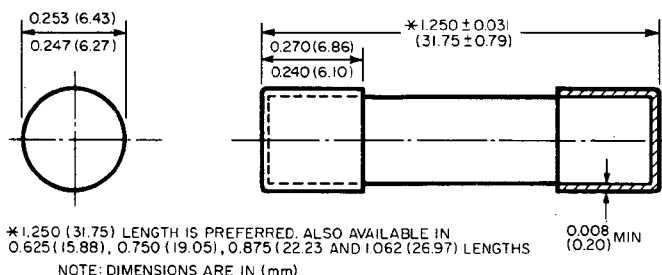
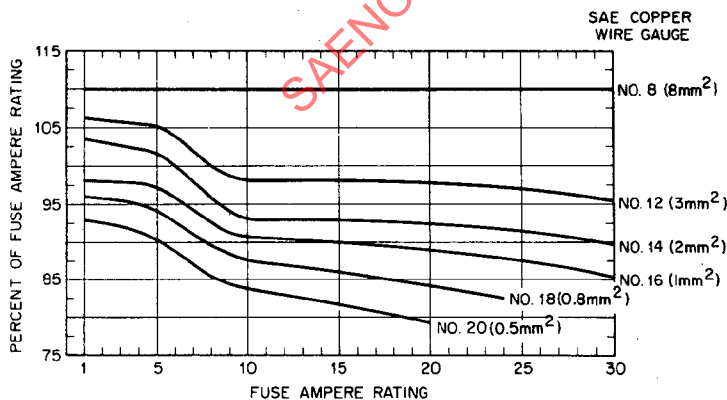
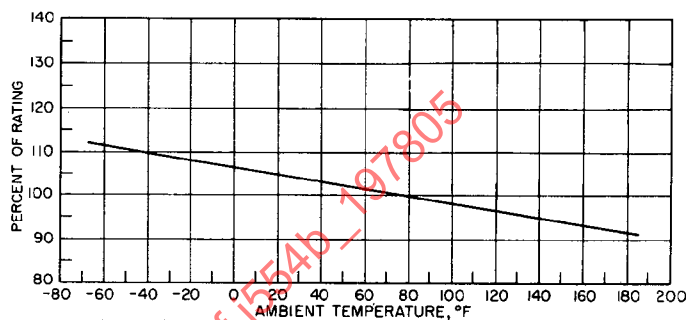

FIG. 1—FUSE DIMENSIONS
FIG. 2—FUSE DERATING FOR VARIOUS WIRE SIZES (1.250 IN (31.75 MM) LENGTH)
FIG. 3—EFFECT OF AMBIENT TEMPERATURE ON AMPERE RATING OF SAE SPECIFICATION FUSES
4. Construction—Fuse caps shall be tightly attached to the glass tube and the ends shall be square and free of solder externally. Fuse elements shall be clearly visible through the glass tube. Fuses shall be capable of being passed through a tubular gage having a length as long as the fuse and having a uniform inside diameter of 0.258–0.259 in (6.55–6.58 mm). Preferred and other fuse dimensions are shown in Fig. 1.
5.1 General—This standard applies to fuses of all lengths. However, the fuse derating chart shown in Fig. 2 applies specifically to the preferred length of 1.250 in (31.75 mm). The fuse manufacturer should be contacted for recommendations on other available lengths. (See Fig. 1.)
5.2 Ampere Rating—This standard covers ampere ratings up to and including 30 A. Preferred ampere ratings are shown in Table 1. These ratings are determined at 75°F (24°C) ambient temperature. Approximate capacity change with respect to temperature is shown in Fig. 3 for all length fuses. The use of fuses in ambient temperatures beyond the limits shown is not recommended without thorough testing experimentally in the vehicle. It is further recommended that fuses not be loaded to 100% of the adjusted capacity, according to ambient temperature, due to electrical system variances. See Fig. 2 for additional deratings when fuses are used on cable gage sizes other than the test gage wire.